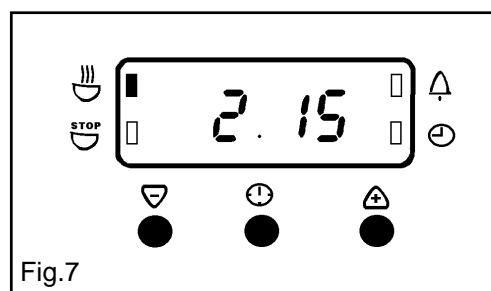

Fig.7
- iii) To set the length of cooking time, press the Selector control button () until the 'Cook Time' indicator neon is illuminated (). Press the increase control (+) until the required length of cooking time is displayed, e.g. 2 hrs 15 mins as Fig. 7. If necessary depress the decrease control (-) until the correct time interval is achieved.